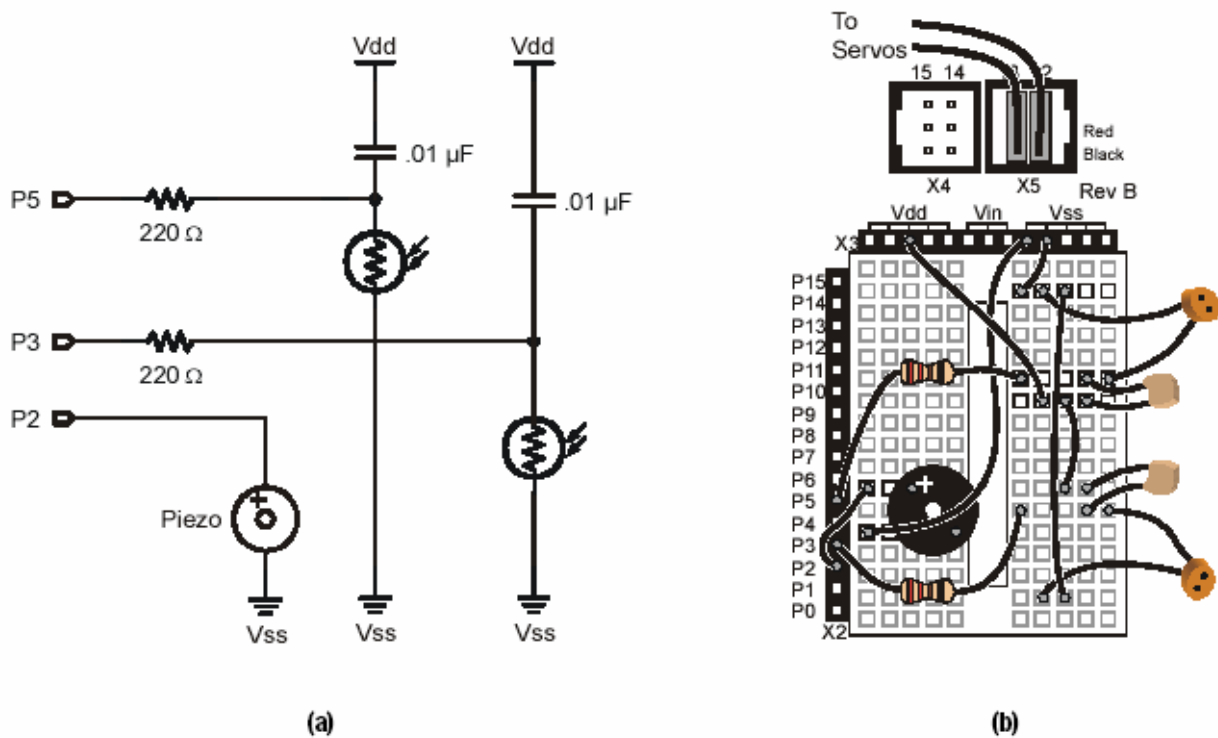

Figure 3.2: (a) Two photoresistor RC circuits for measurement of resistance that varies with light, and (b) breadboard example of the circuit.
Circuit building: Figure 3.2 shows (a) the resistor/capacitor (RC) circuit for each photoresistor and (b) a breadboard example of the circuit. A photoresistor is an analog device. Its value varies continuously as illuminance, another analog value, varies. The photoresistor's resistance is very low when its light-sensitive surface is placed in direct sunlight. As the light level decreases, the photoresistor's resistance increases. In complete darkness, the photoresistor's value can increase to more than 1 M Ω . Even though the photoresistor is analog, its response to light is nonlinear. This means if the input source
Programming to Measure the Resistance: The circuit in Figure 3.2 (a) was designed for use with the PBASIC **rctime** command. This command can be used with an RC circuit where one value, either R or C, varies while the other remains constant. The **rctime** command lends itself to measuring the variable values because it takes advantage of a time varying property of RC circuits. The time it takes for the voltage on an RC circuit to change voltage depends on $R \times C$, the RC time constant. The RC time constant is often denoted by the Greek letter Tau (τ). For one of the RC circuits shown in Figure 3.2 (a), the first step in setting up the **rctime** measurement is charging the lower plate of the capacitor to 5 V. Setting the I/O pin connected to the lower capacitor plate by the 220 Ω Resistor high for a few ms takes care of this. Next, the **rctime** command can be used to take the measurement of the time it takes the lower plate to discharge from 5 to 1.4 V. Why 1.4 V? Because that's the BASIC Stamp I/O pin's threshold voltage. When the voltage at an I/O pin set to input is above 1.4 V, the value in the input
The **rctime** command for the circuit shown in Figure 3.2 measures how long it takes for the voltage at the lower plate of the capacitor to fall from 5 to 1.4 V. This time varies according to the formula:
Equation 1.1 indicates that the time it takes the voltage at the lower plate of the capacitor in one of the Figure 3.2 (a) RC circuits to drop from 5 to 1.4 V is directly proportional to the photoresistor’s resistance. Since this resistance varies with illuminance (exposure to varying levels of light), so does the time. By measuring this time, relative light exposure can be inferred.